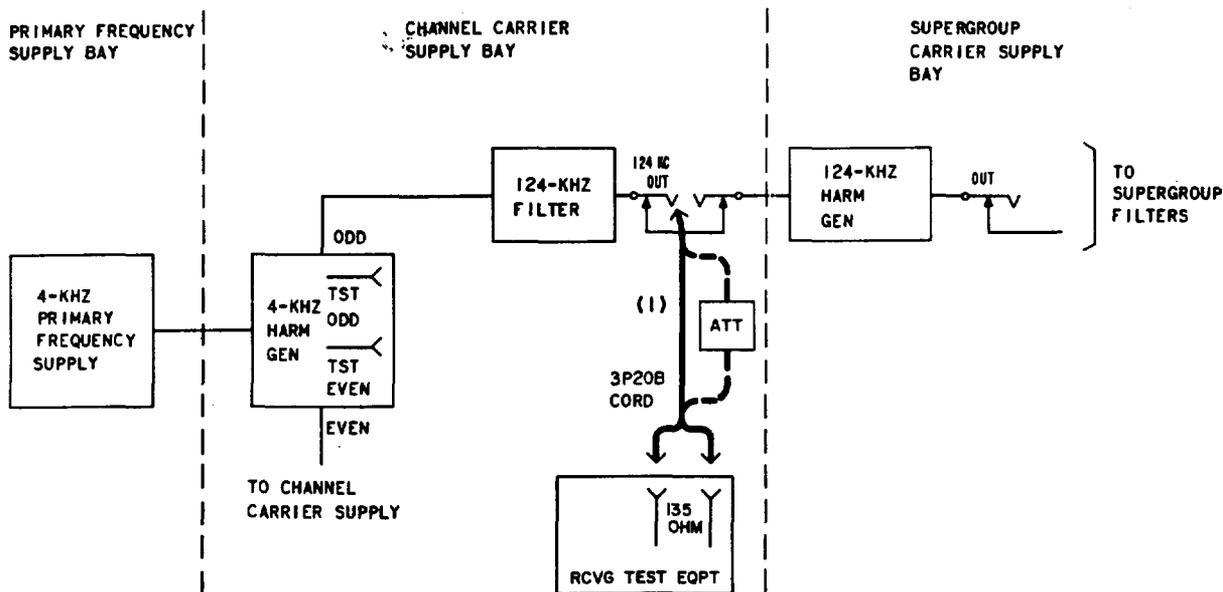

Fig. 2—Supergroup Carrier Supply—Measurement of 124-kHz Filter Output Power
5	At the channel carrier supply bay, connect the RTE (through a 9-dB attenuator) to the 124-kHz filter [patch (1), Fig. 2].